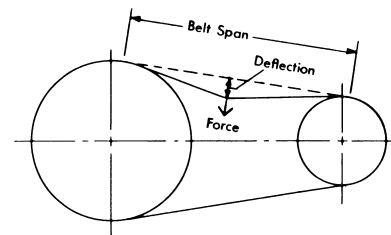

Figure 11
- Step 1. Install the belt as per Steps 1 and 2 of the General Method. Measure the span length (in inches) as illustrated in Figure 11.
- Step 2. From Figure 11 determine the deflection height required for the drive. The deflection height is always 1/64" per inch of span length. For example, a 32" span length requires a deflection to 32/64" or 1/2". To measure the deflection height place a straightedge from sprocket to sprocket on top of the belt or wrap a string or steel tape around the sprockets on top of the belt. This will serve as a reference line to measure deflection inches.
- Step 4. Using a spring scale, apply a perpendicular force to the belt at the mid-point of the span as illustrated in Figure 11. NOTE: For belts wider than 2 inches, it is suggested that a rigid piece of keystone or something similar be placed across the belt between the point of force and the belt to prevent belt distortion. Compare this deflection force value to that found in Step 3. Adjust belt tension accordingly.